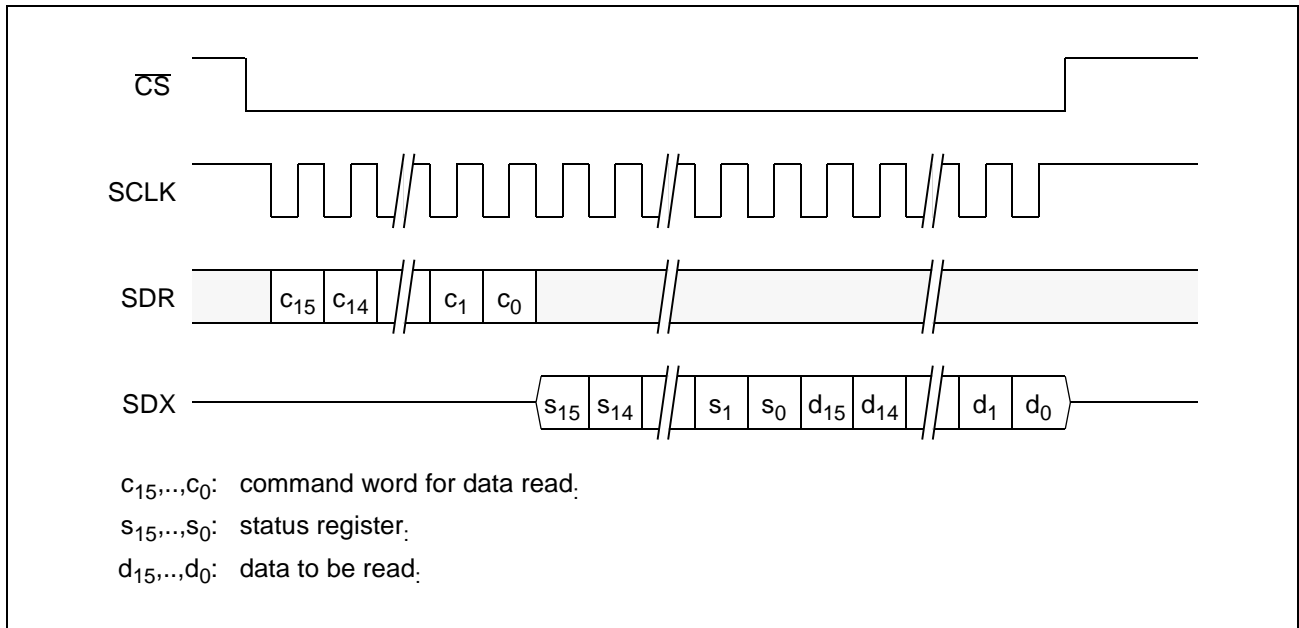

Figure 38 Data Read Access
*Note: Reading any register except the status register or a hardware configuration register requires at least two accesses. The first access is a register read command (figure 41). With this access the register address is transferred to the. After that access data read accesses (figure 38) must be executed. The first data read access with STATUS:RDY=1 delivers the value of the register.*